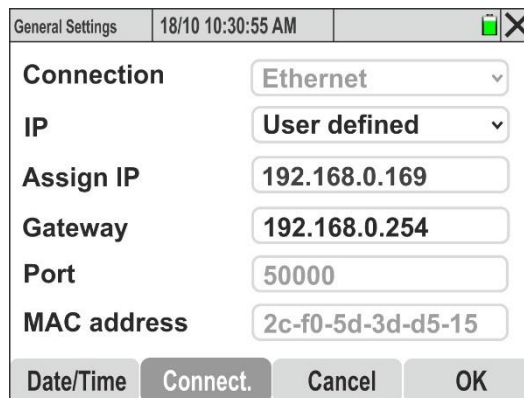

Fig. 16: Setting the communication via Ethernet network – Def. by user Mode
17. Select the "**Network**" option, enter the IP address of the previously defined device (see Fig. 16) and press "**OK**" to confirm